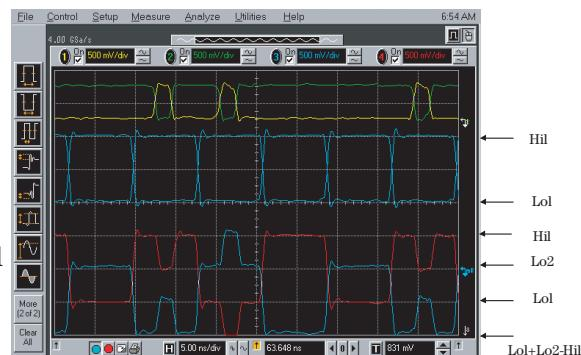

Fig 9b : Analog channel Add Agilent E4838A Frontend
- With the Analog channel adding a 4 -level- signal is possible, see fig 9b.